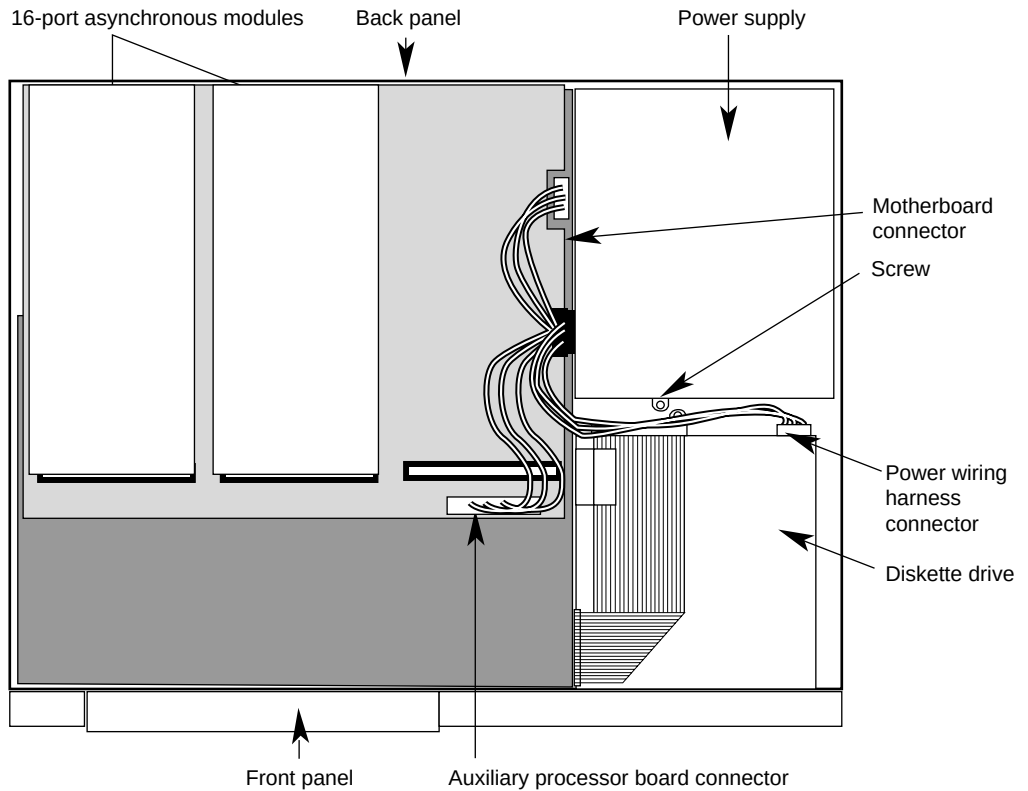

Figure 5-7 Disconnecting Power Supply Cables
- 3 Disconnect the cable that connects the power supply to the connector on the auxiliary processor board, as shown in Figure 5-7.
In order to show the location of the motherboard connector, Figure 5-7 shows the 16-port asynchronous module closest to the power supply removed. You do not need to remove this module to reach the connector.
Figure 5-7 shows the location of the screw.
- c** Disconnect the cable that connects the power supply to the connector on the motherboard, as shown in Figure 5-7.
- d For Model CS/3100, disconnect the power wiring harness from the connector on the rear of the diskette drive, as shown in Figure 5-7.